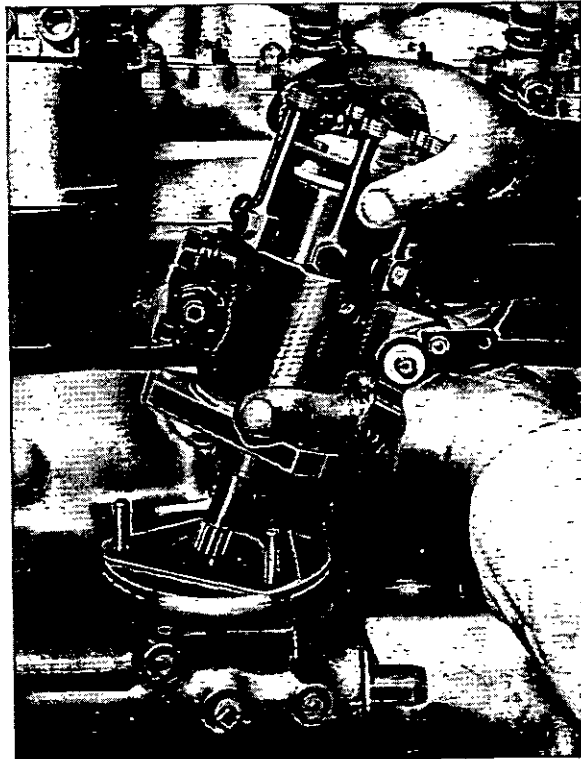

Fig. M.11. Removing Fuel Pump.
3. Remove the fuel pump (Fig. M.11).